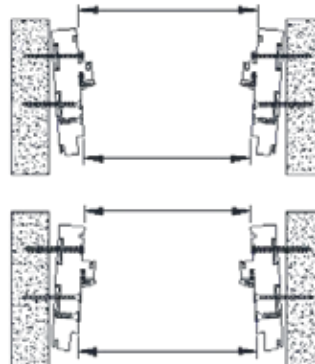

Figure 13
- Helpful Tip:** If the panels are crashing or are too far apart, the frame jambs may have rotated during installation. Measure frame width on interior and exterior (Figure 13) to ensure that jambs are parallel and straight. This condition can be corrected by loosening screws in the jambs and adjusting the shims.